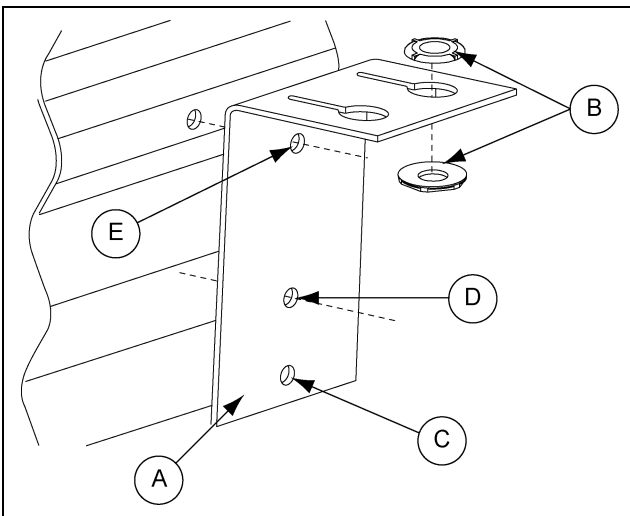

Figure 6
Two (2) piece threaded nylon bushing (BLK-11876) (B) place one in each hole. (See Figure 6.)